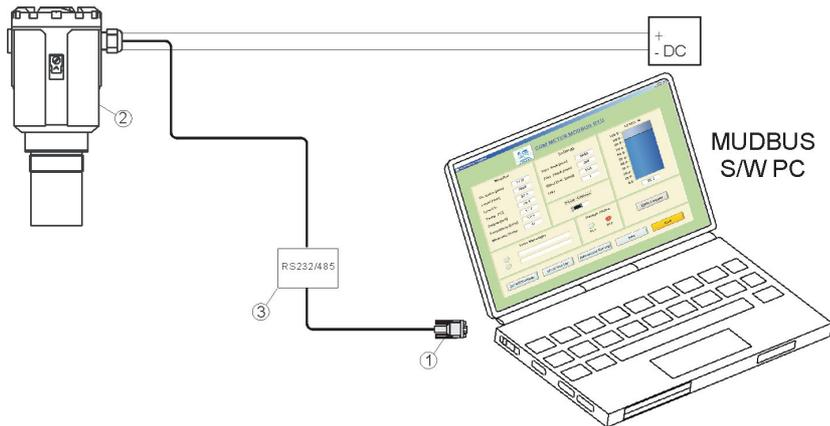

Fig.7
3.2.1 MODBUS PC connection(fig.7)